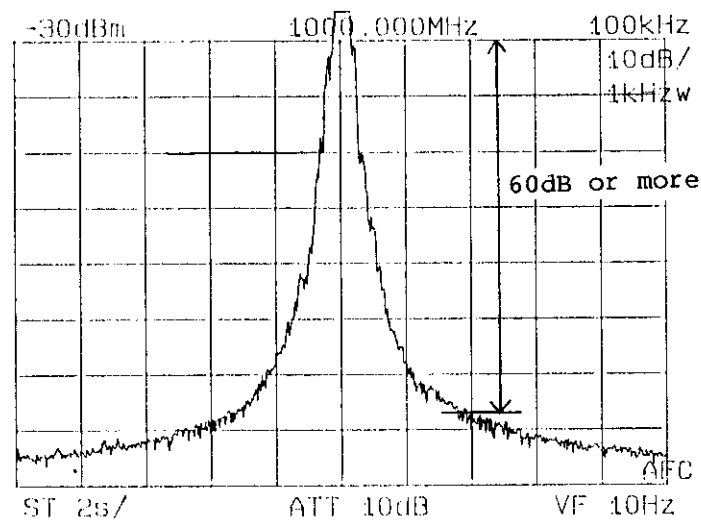

Figure 11-11 Noise Sidebands Measurement
- ⑥ Set the reference level to -30 dBm and the video filter to 10 Hz.
- ⑦ Measure the noise sidebands at the position which is 2 divisions (20 kHz) from the center of the display screen. Check that the noise sidebands is lower than the reference level by 60 dB or more as shown in Figure 11-11.